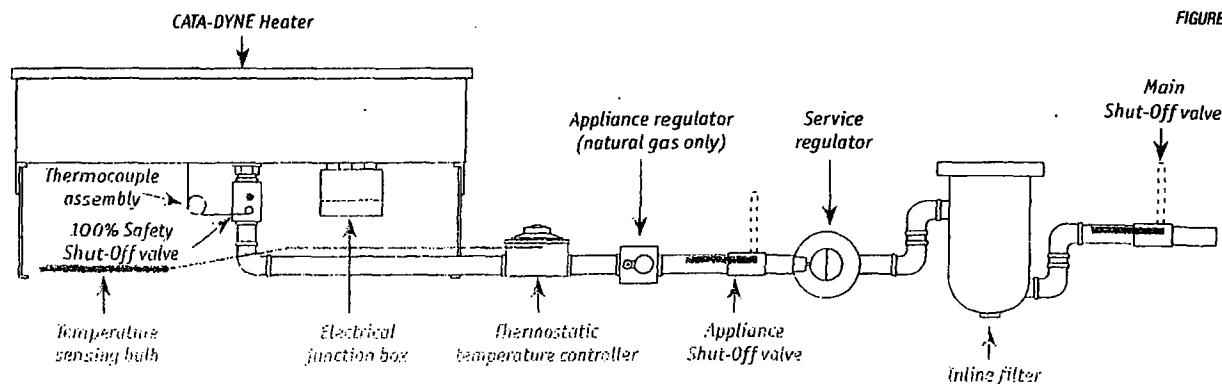

FIGURE 2
6. All components should be installed as indicated in Figure 2.